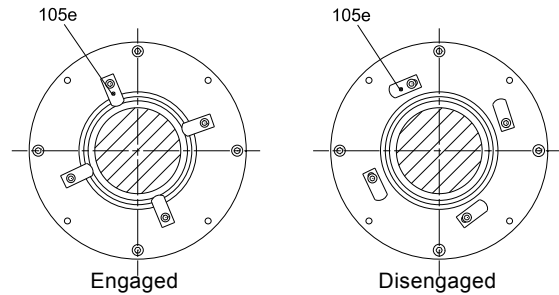

Fig. 51 Shaft seal locks
1. Gently remove the seal ring (pos. 104).
2. Loosen the screw (pos. 105f) and engage the shaft seal locks (pos. 105e), then tighten the screw (pos. 105f) again. See fig. 51.
3. Loosen the set screws (pos. 104b).
4. Remove the circlip (pos. 77a).
6. Remove the shaft seal (pos. 105).
2. Loosen the screw (pos. 105f) and engage the shaft seal locks (pos. 105e), then tighten the screw (pos. 105f) again. See fig. 51).
4. Loosen and remove the screws (pos. 105d).
5. Mount the screws (pos. 105d) in the dismantling threads placed next to their normal position. See fig. 51. Tighten the screws equally until the cartridge comes loose.